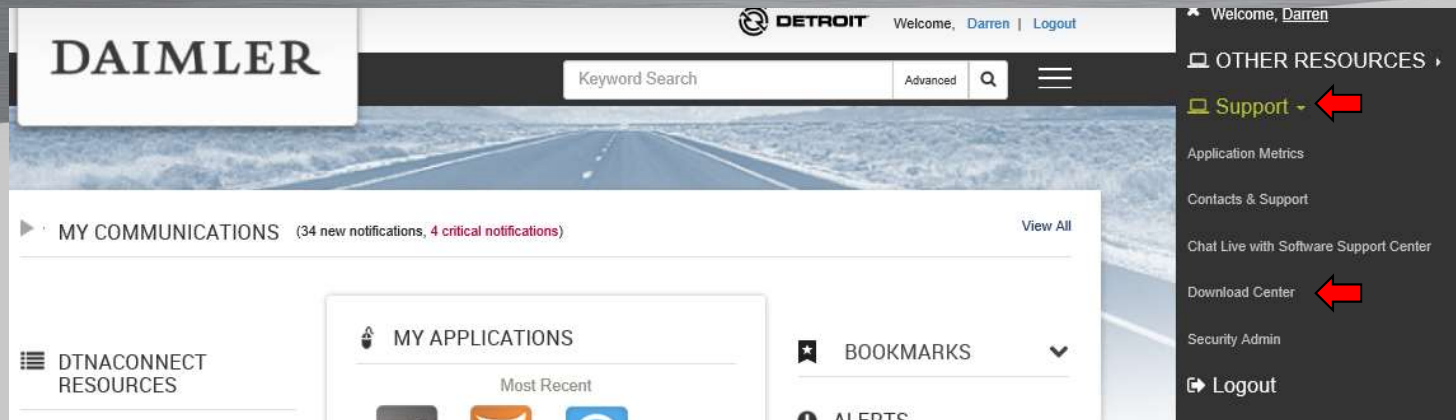

Fig. 1, Selecting Support and Download Center
1. On the laptop, go to DTNAConnect and select the three menu bars in the upper right-hand corner. Click Support then Download Center. See Fig. 1.